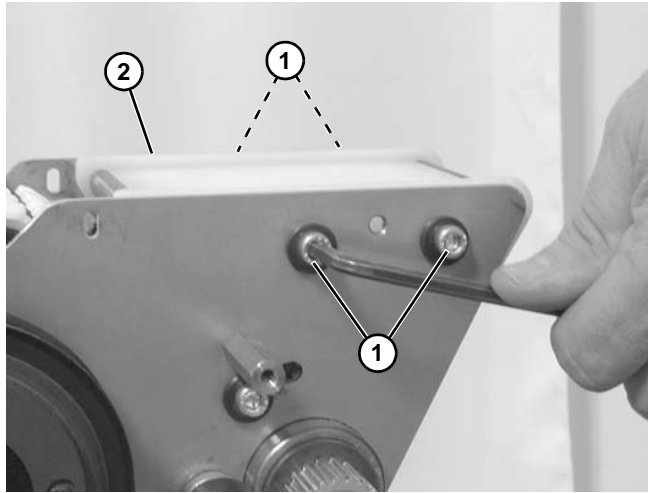

Figure 150
9. Remove four socket head screws (**Figure 150, item 1**) holding wear bar assembly (**Figure 150, item 2**) onto power transfer.